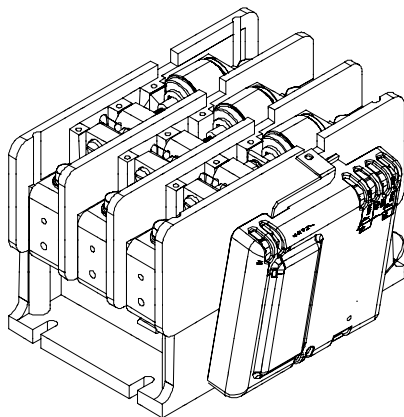

FIGURE 2A
5. Remove the Control-Pak from the **contactor by first pulling** out the top of the Control-Pak (the tab must clear the notch) and then push Control-Pak slightly downward to release lower tab that holds the Control-Pak to the housing (FIGURES 2A & 2B).